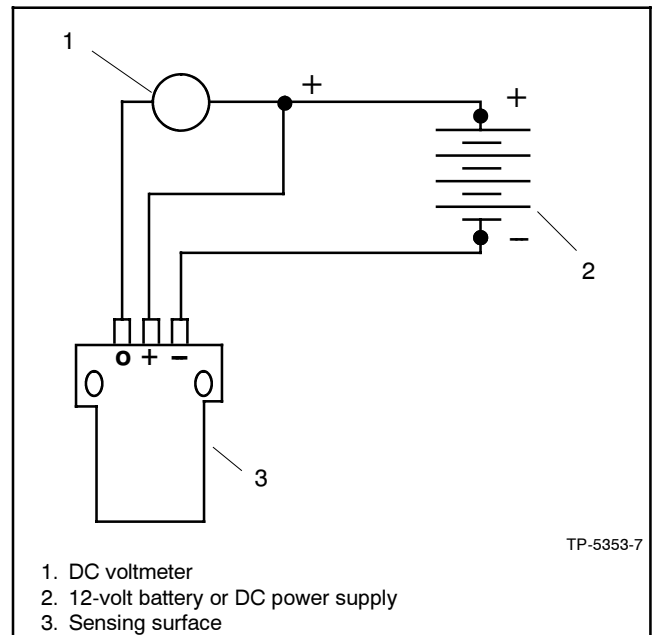

Figure 3-19 Speed Sensor Test
- Connect speed sensor, voltmeter, and DC voltage source as shown in Figure 3-19.